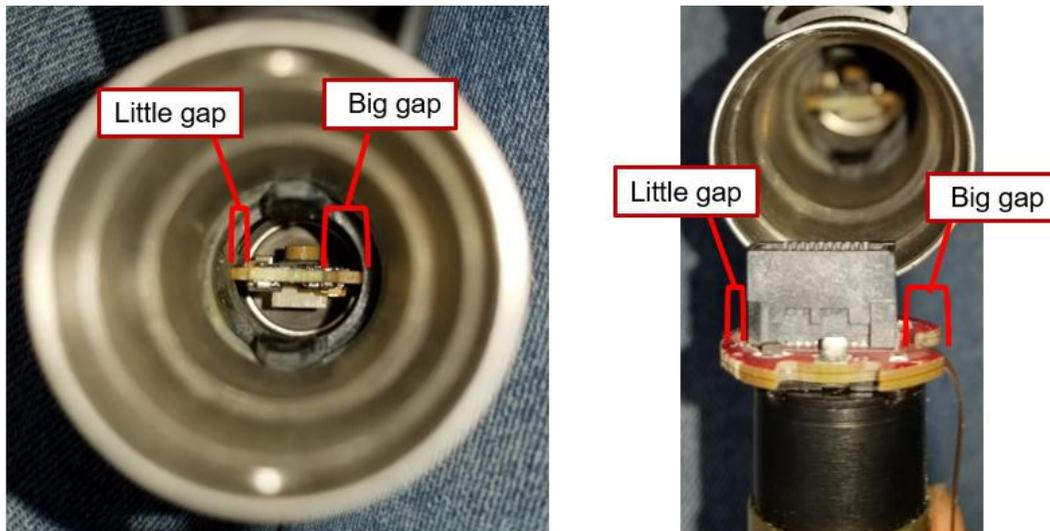

Figure 161. Align gaps on motor and housing
- 10) Inside the wiper housing, you will see a board with two different sized gaps. Orient the small and large gaps with the same gaps on the wiper motor **(Figure 161)**. As the motor is inserted **do not force motor**, apply gentle pressure and reassess alignment if the motor does not easily seat into housing.